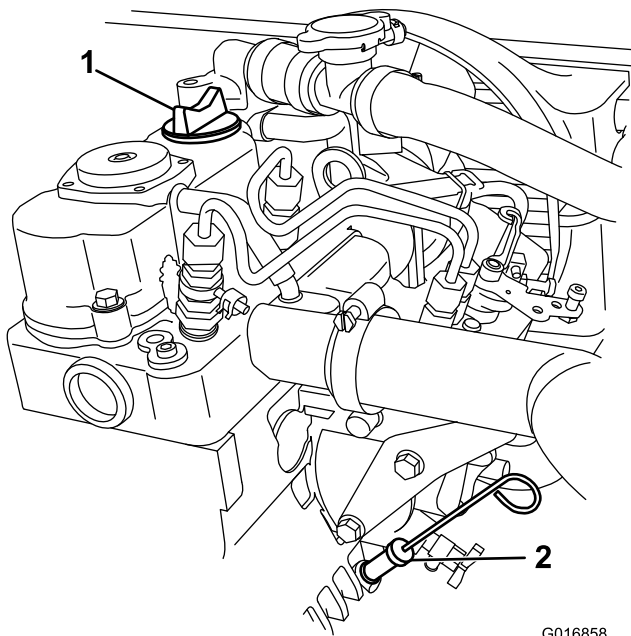

Figure 16
3. Use a rag to clean around the oil dipstick (Figure 16) so that dirt cannot fall into the dipstick tube and damage the engine.
5. Slide the oil dipstick into the dipstick tube fully seating it (Figure 16).
6. Pull the dipstick out and look at the end (Figure 16).
7. Install the oil dipstick and firmly seat it (Figure 16).